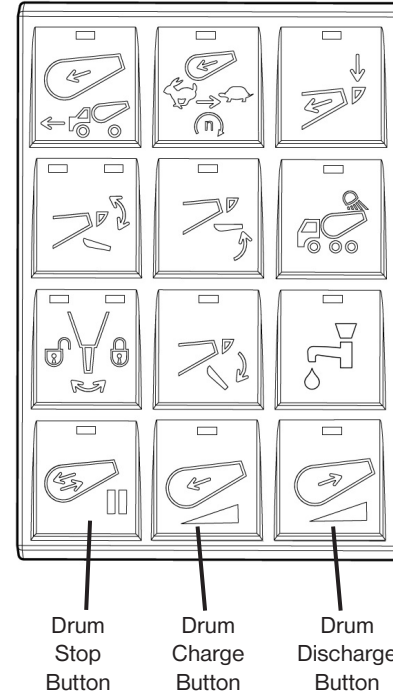

Figure 11
1. Make sure the drum Start/Stop button indicator is OFF on the in-cab control keypad by pressing the button to toggle the light on/off (Figure 11).
2. Press the appropriate button, either Charge or Discharge on the in-cab keypad (Figure 11).